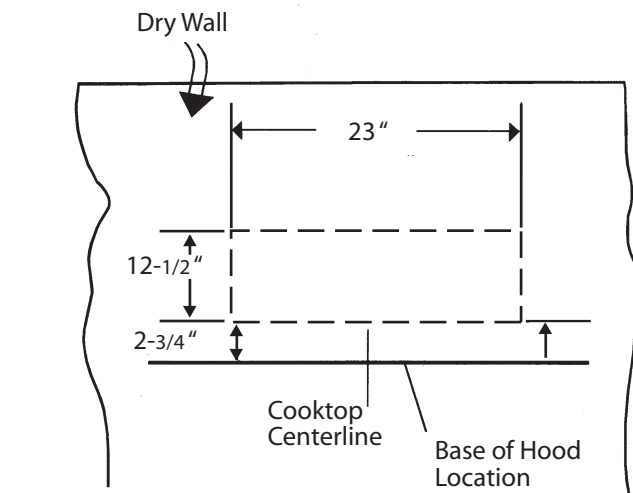

Figure 6: Cutout Dimensions
11. **Discharge Direction:** Horizontal discharge requires a wall cutout, as shown in Figure 6, to provide clearance for the transition. The location of the cutout is determined by the hood installation height.
3. For horizontal discharge, use Figure 6 for the geometry of the cutout required for clearance of the transition.